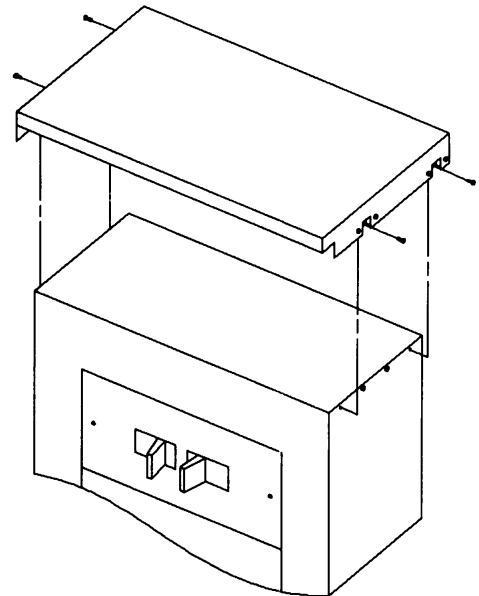

Figure 2. Attaching the drip-resistant cover.
3. Attach the drip-resistant cover to the enclosure, as illustrated in Figure 2, using the screws removed in step 2. It may be necessary to loosen the screws in the mounting brackets to adjust their positions to proper alignment with the holes in the enclosure. Tighten all screws.